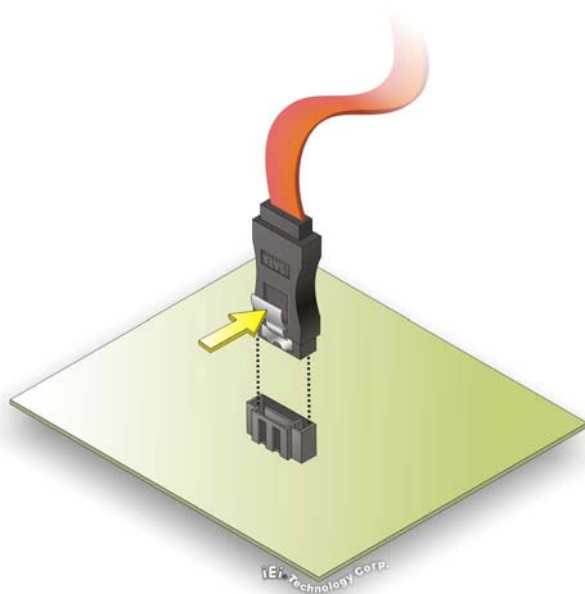

Figure 4-9: SATA Drive Cable Connection
- Step 2: Insert the cable connector.** Press the clip on the connector at the end of the SATA cable and insert the cable connector into the on-board SATA drive connector. See **Figure 4-9**.